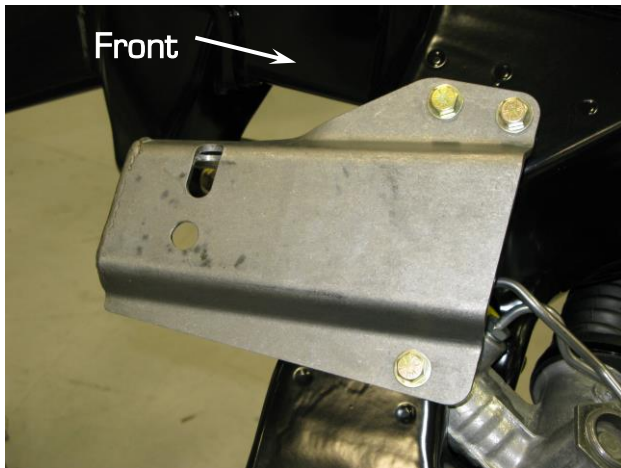

Figure 2 - Engine frame stand attached to the subframe, LH
1. Attach the frame stands to the subframe. Install five 3/8" - 16 x 1" L bolts (#2) along with five 3/8" lock washers (#3) per side. There is a LH and RH stand. Be sure to use High Strength Loctite when installing these bolts. See Figure 2 for an example of how the mounts are oriented on the subframe. Torque the bolts to 35 ft/lbs.